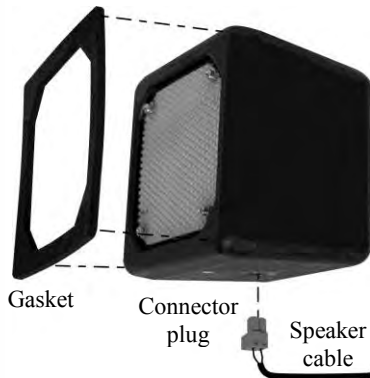

Figure 19. SP10 with gasket and cable connector plug
- Strip approximately 1 inch (25.4 mm) of insulation from the end of the speaker cable, and ¼ inch (6.35 mm) of insulation from each of the two cable wires, but do not tin the wires. Connect the speaker cable wires to the connector plug as shown in Figure 19.
- Insert the connector plug into the connector on the speaker as shown in Figure 19.
- Peel the paper off the self-adhesive gasket, and press the adhesive side of the gasket against the front of the speaker in the position shown in Figure 19.